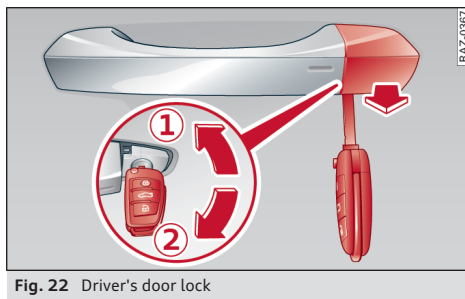

Fig. 22 Driver's door lock
- Insert the vehicle key into the slot under the door handle and lever off the cap ⇒ *Fig. 22*.
- To unlock the driver's door, turn the key to the unlock position ① ⇒ *Fig. 22*.
- Manual gearbox: To lock the driver's door, turn the key to the lock position ② once ⇒ .
- Automatic gearbox: To lock the driver's door, select transmission position P, close the door and turn the key to the lock position ② once ⇒ .
Ensure that you only insert the key in the lock in the direction illustrated to avoid damaging the key and the lock ⇒ *Fig. 22*. On right-hand drive vehicles, the key should be inserted the other way around correspondingly.